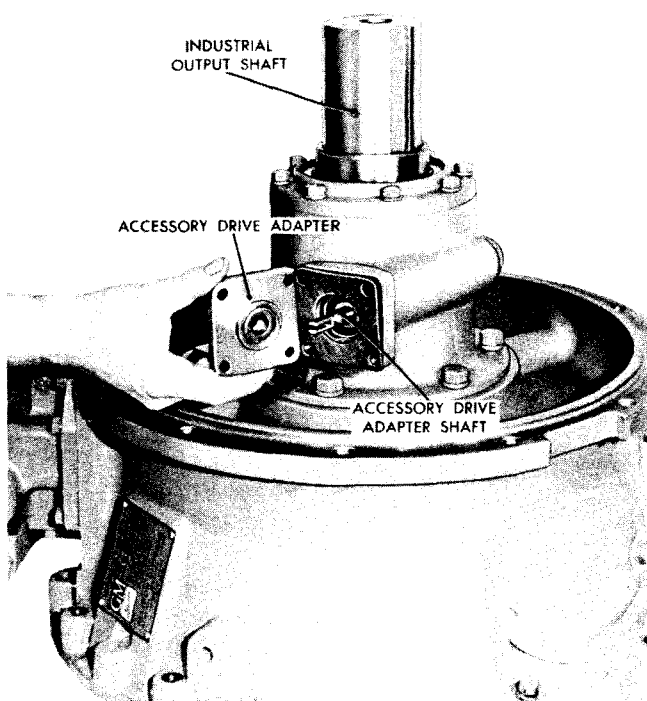

Fig VI-23. Removing accessory drive adapter
(1) Remove the four bolts and the lock washers from the accessory drive adapter. Remove the adapter and gasket (fig. VI-23).
(4) Using pliers, remove the accessory drive adapter shaft (fig. VI-23).